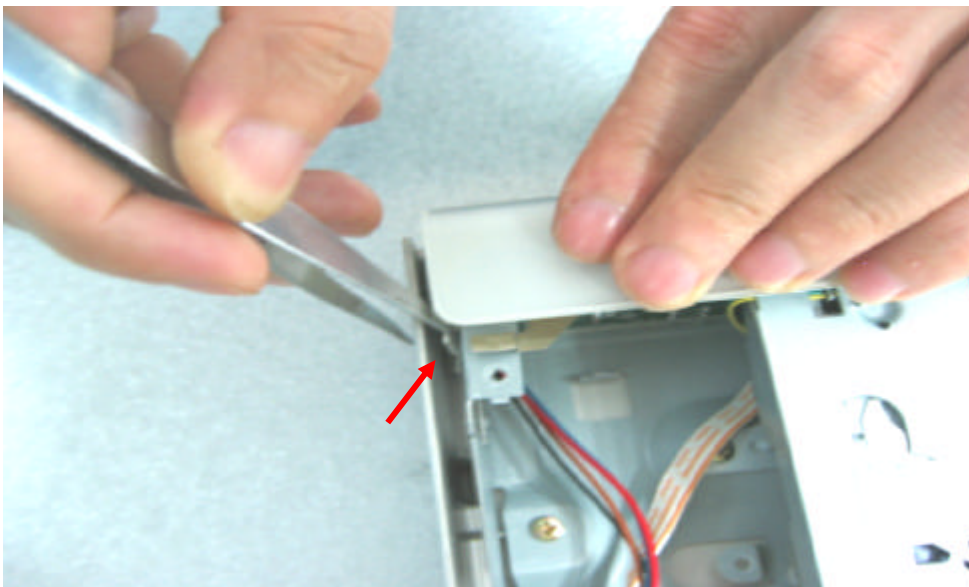

Figure 5
Step5: Use a small flat tip screw driver to release the snaps on the Front Panel and gently pull the Panel out from the set. (Figure 5)